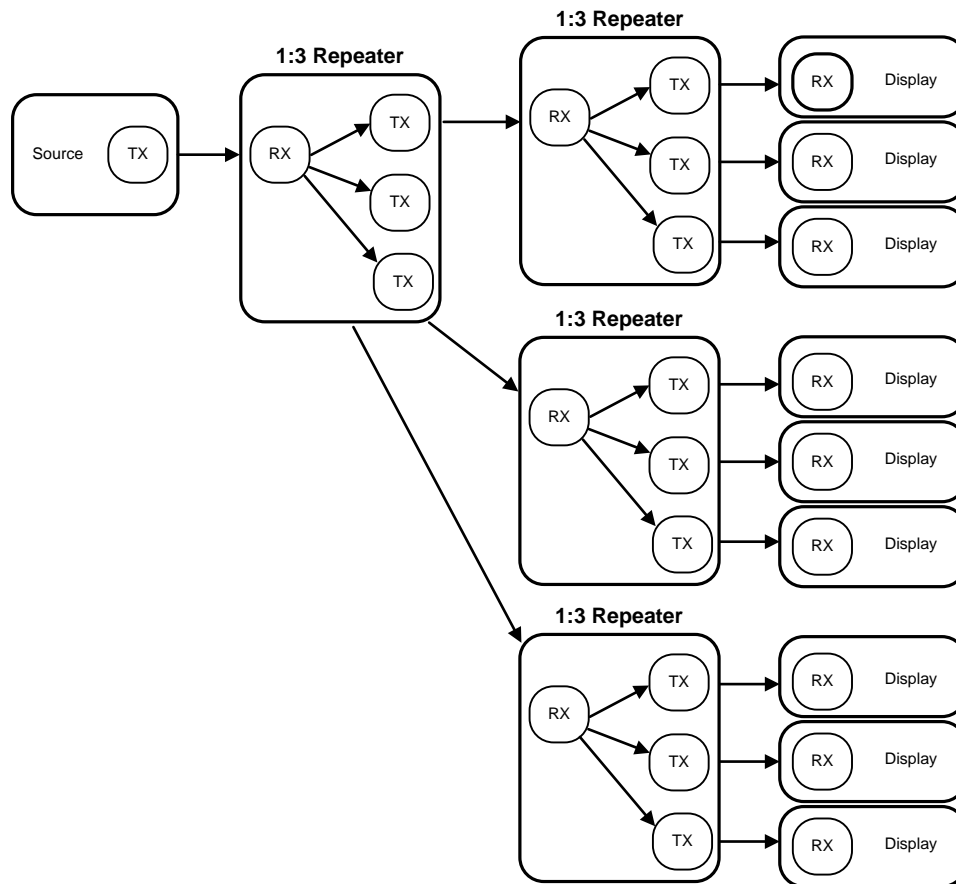

Figure 25. HDCP Maximum Repeater Application
In the HDCP repeater application, this document refers to the DS90UH947-Q1 as the HDCP transmitter (TX), and refers to the DS90UH948-Q1 as the HDCP receiver (RX). Figure 25 shows the maximum configuration supported for HDCP repeater implementations. Two levels of HDCP repeaters are supported with a maximum of three HDCP Transmitters per HDCP receiver.